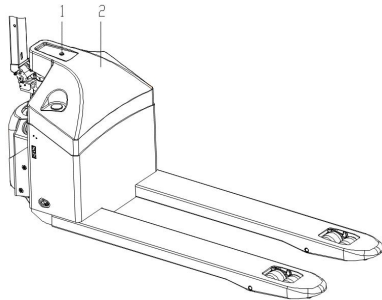

Fig.6
- (Fig 6) Loose screw1, remove cover2;